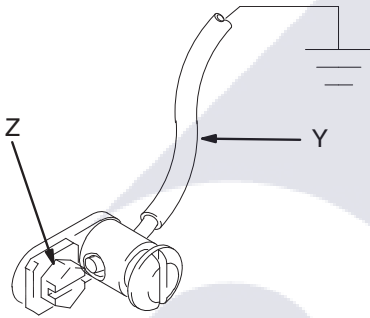

Fig. 1
1. *King Pumps*: use a ground wire and clamp. See Fig. 1. Remove the ground screw (Z) and insert through eye of ring terminal at the end of ground wire (Y). Fasten ground screw back onto pump and tighten securely. Connect the other end of ground wire to a true earth ground. Order Part No. 222011 Ground Wire and Clamp.